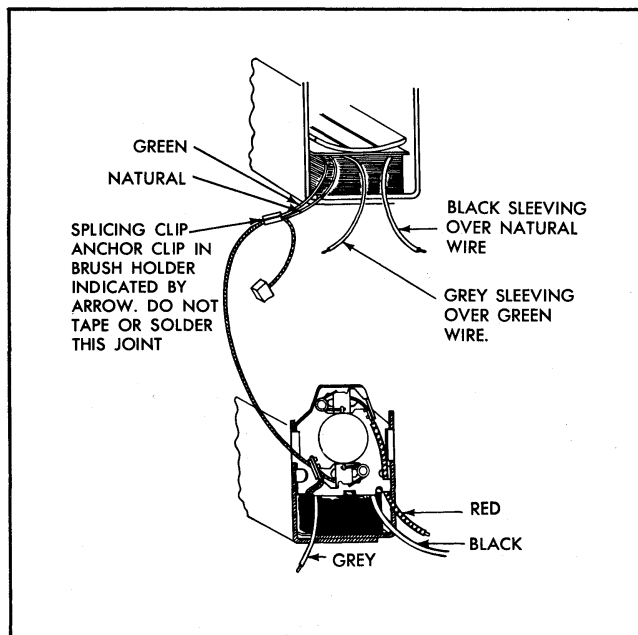

Fig. 11-101 Internal Wiring
0	(1) Loose solder connection at wiper terminal No. 2. (2) Loose splice joints (Fig. 11-101).
Except for the internal wiring to the wiper terminal board, the disassembly-assembly procedures for the two speed wiper covered in this section are the same as those outlined for the single speed wiper. See Fig. 11-101 for internal wiring.